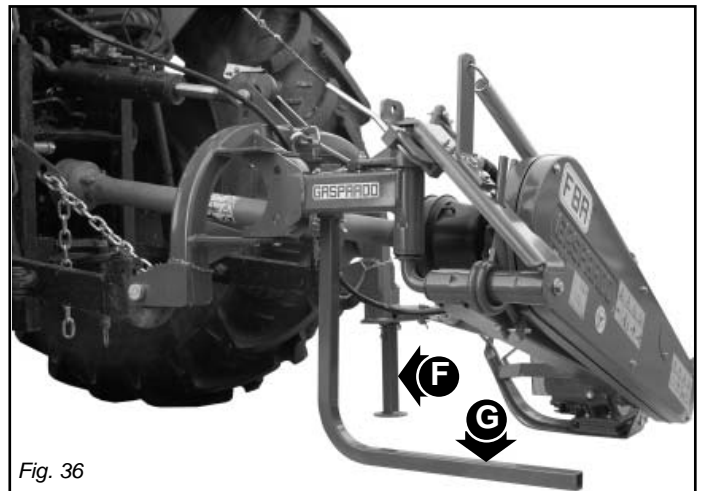

Fig. 36
- **Lastly, store the implement in a dry place where it cannot be tampered with by unauthorized persons; the mowing machine must be set-up on flat and compact ground, supported by the relative bearing struts (F-G, Fig. 36).**